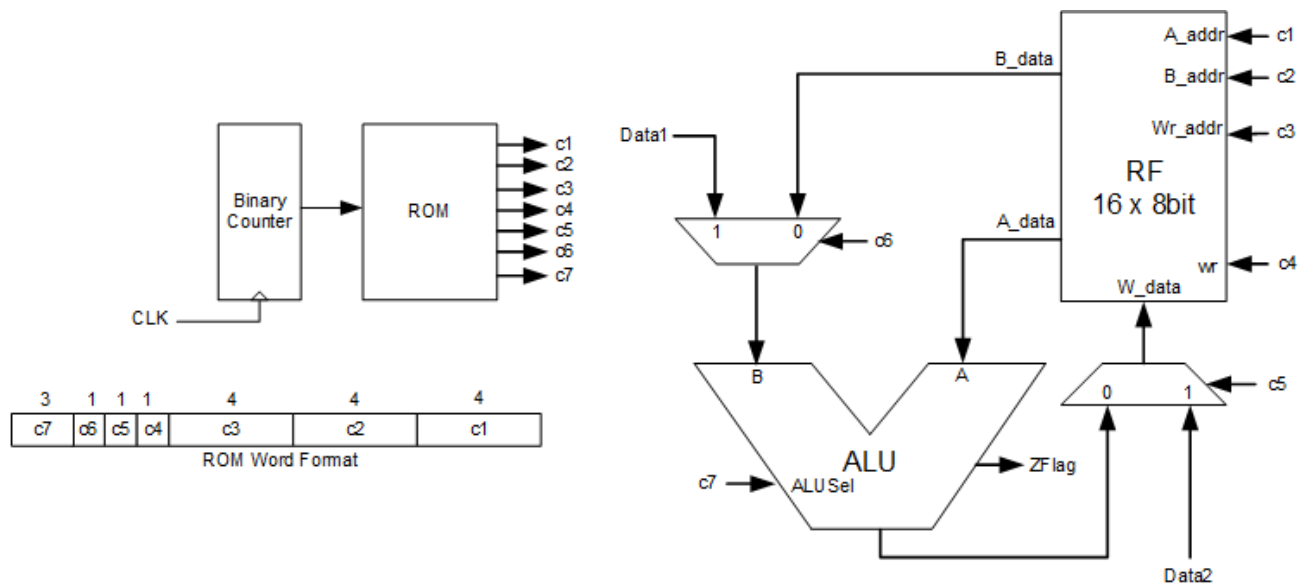
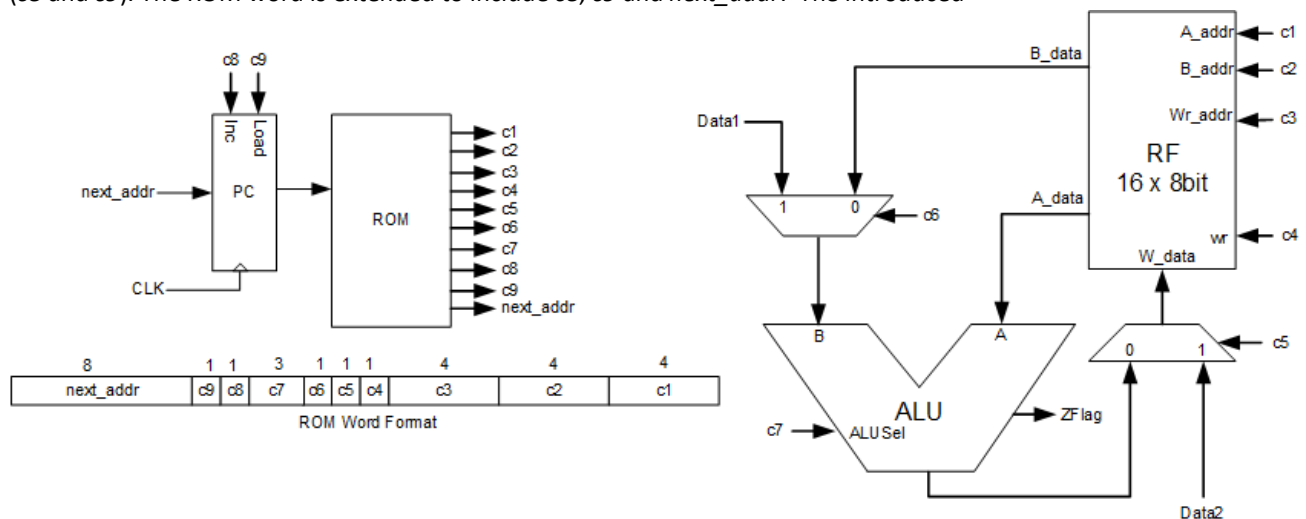

Figure 3. Datapath + ROM for the control signals
Figure 4. The updated Datapath to support control operations
To implement an algorithm (made out of a sequence of micro-operations), the values of the control signals should change in steps. Such stepping (or sequencing) can be automated if the control signals values are stored in a ROM memory then read one by one from the memory. A binary counter is used to generate the memory address. This is outlined in Figure 3. The sequence of micro-operations used to implement a specific operation is called a micro-program. The binary counter that provides the address to the ROM is called the Program Counter (PC).
The outlined hardware in Figure 3 supports only sequential execution of micro-operations. To allow implementing control structures in the micro-programs (such as loops), the hardware should be modified to allow loading the binary counter (also called the Program Counter of “PC”) with the address of the micro-operation word we want to execute next (*next_addr*). This micro-operation is usually called unconditional jump. Figure 4 outlines such modification. Now, the PC is a binary counter with a parallel load capability. Also, 2 more control signals are added (*c8* and *c9*). The ROM word is extended to include *c8*, *c9* and *next_addr*. The introduced